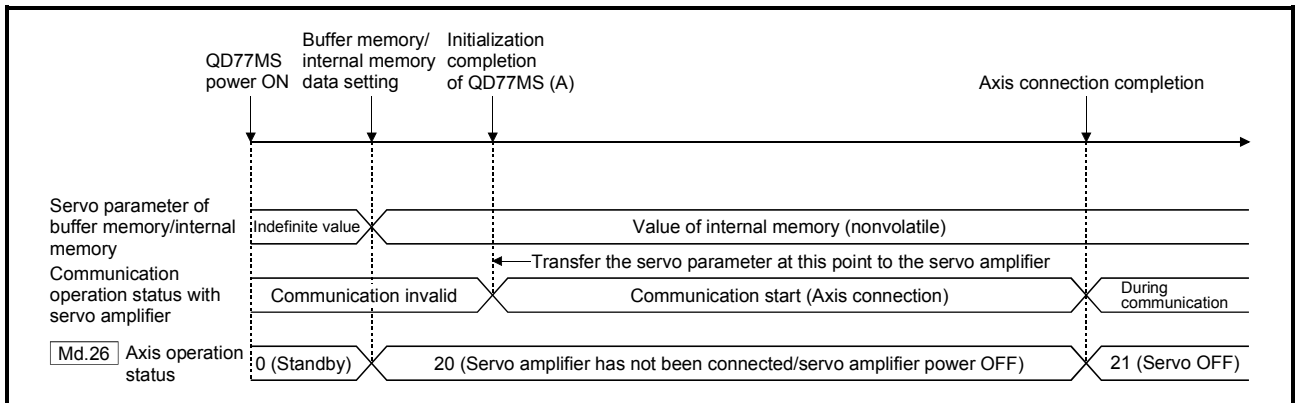

Fig. 7.1 When the servo amplifier had started before the system's power supply ON
Communication start timing to the servo amplifier: Initialization completion (Fig. 7.1 (A))